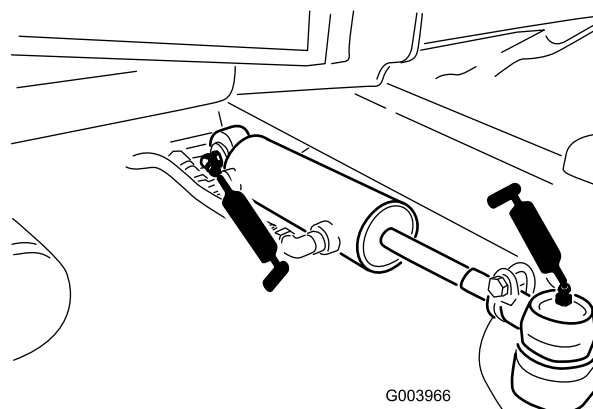

Figure 52
- Steering-cylinder ball joints (2) (Figure 52)